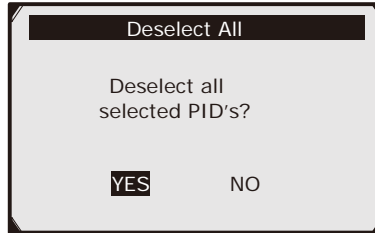

Figure 5.18
- A message comes up to ask for your confirmation. (**See Figure 5.18**)